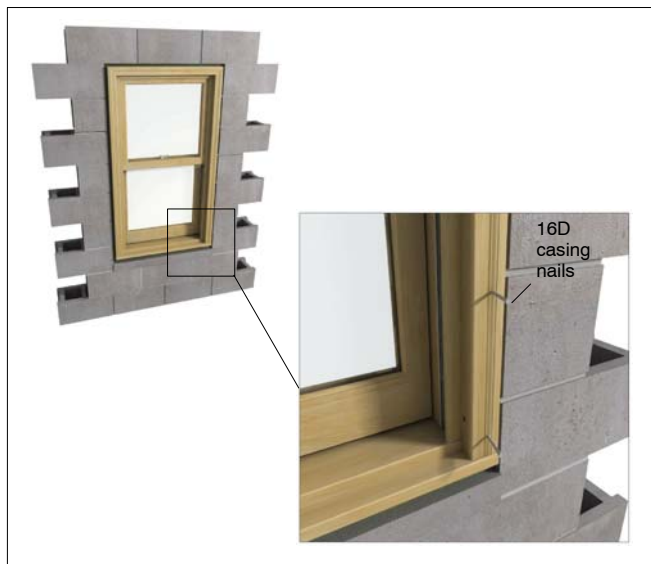

Figure 7
1. Fasten units using wood brick mould casing with 16d casing nails spaced at the range specified in the "Installation Methods and Fastener Spacing Chart". See figure 7.